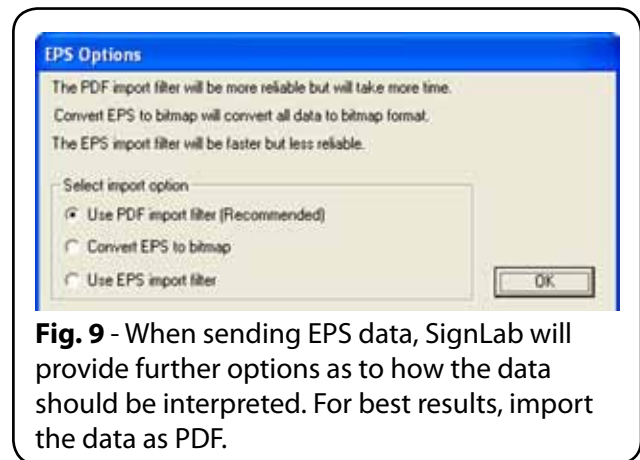

Fig. 9 - When sending EPS data, SignLab will provide further options as to how the data should be interpreted. For best results, import the data as PDF.
- **EPS** - This is the best choice for designs that contain transparency data, such as shadow effects. In SignLab, the **EPS Options** dialog (Fig. 9) will provide further options.